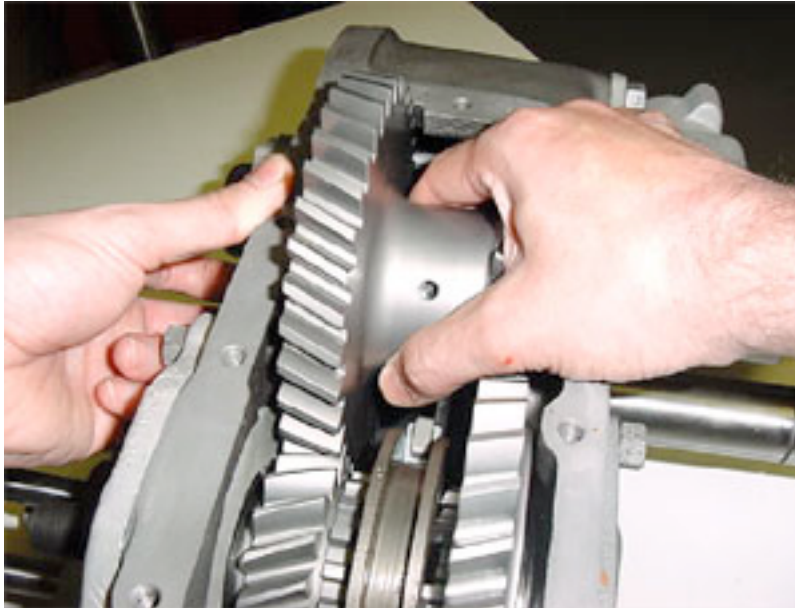

FIG: 22
21) Roll the idler gear into place rotating it as it is lowered (Fig.22).